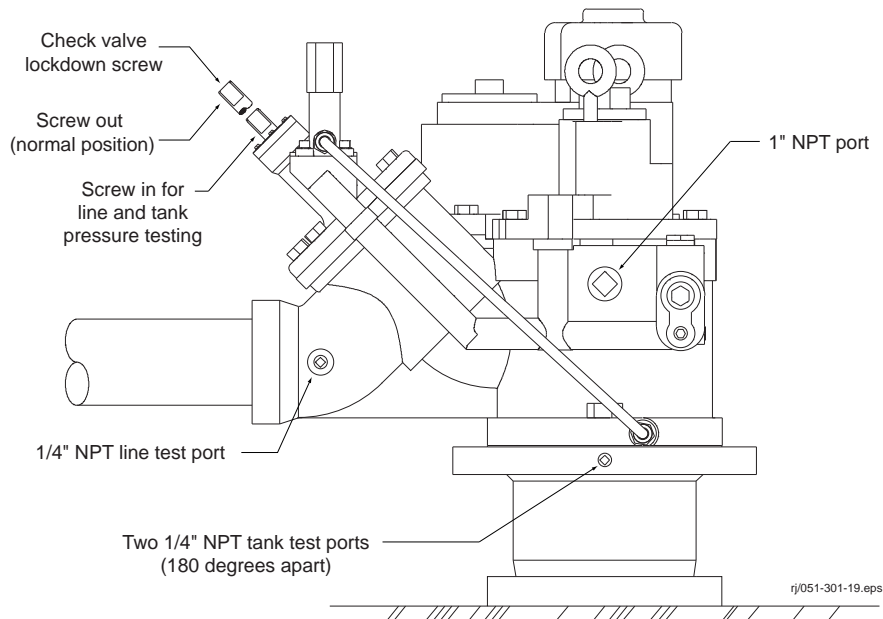

Figure 12. Maxxum® Packer-Manifold Assembly: Line and Tank Testing
2. Lock down the pump check valve by turning the check valve lock down screw clockwise as far as it will turn (see Figure 12).
1. Lock down the pump check valve by turning the check valve lock down screw clockwise as far as it will turn (see Figure 12).